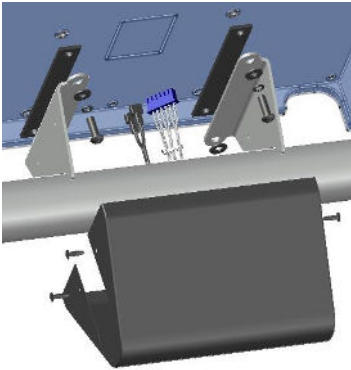

Figure 5-3
5. Attach the console to the console supports with the hardware supplied in the order shown in Figure 5-3. Ensure the rubber pads are placed between the steel mounting surface and the back of the console. Tighten bolts evenly.
6. Position the black cover and align the holes in the side of the mount with those in the cover. Secure cover with (4) #10-32 screws.